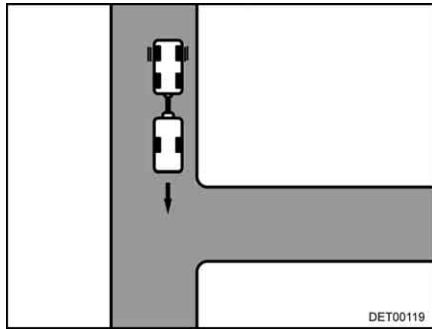

Fig. 16 Approach
- Drive up to the entrance until the rear of the caravan is roughly level with the entrance (Fig. 16).